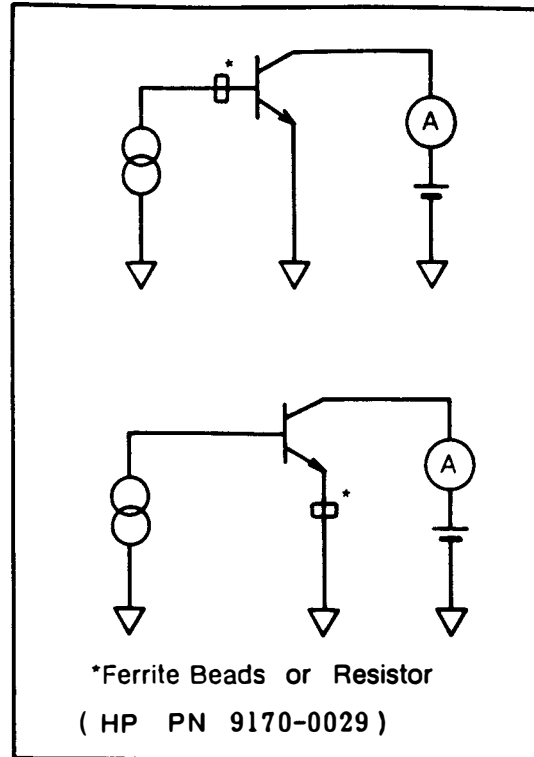

Figure 3. Preventing Transistor Oscillation
For (1), (2), (3), and (4) above, position ferrite beads as close as possible to the DUT to kill high frequency oscillations, and to kill low frequency oscillations, insert a resistor as shown in Figure 3. In some instances it may be necessary to use more than one ferrite bead.